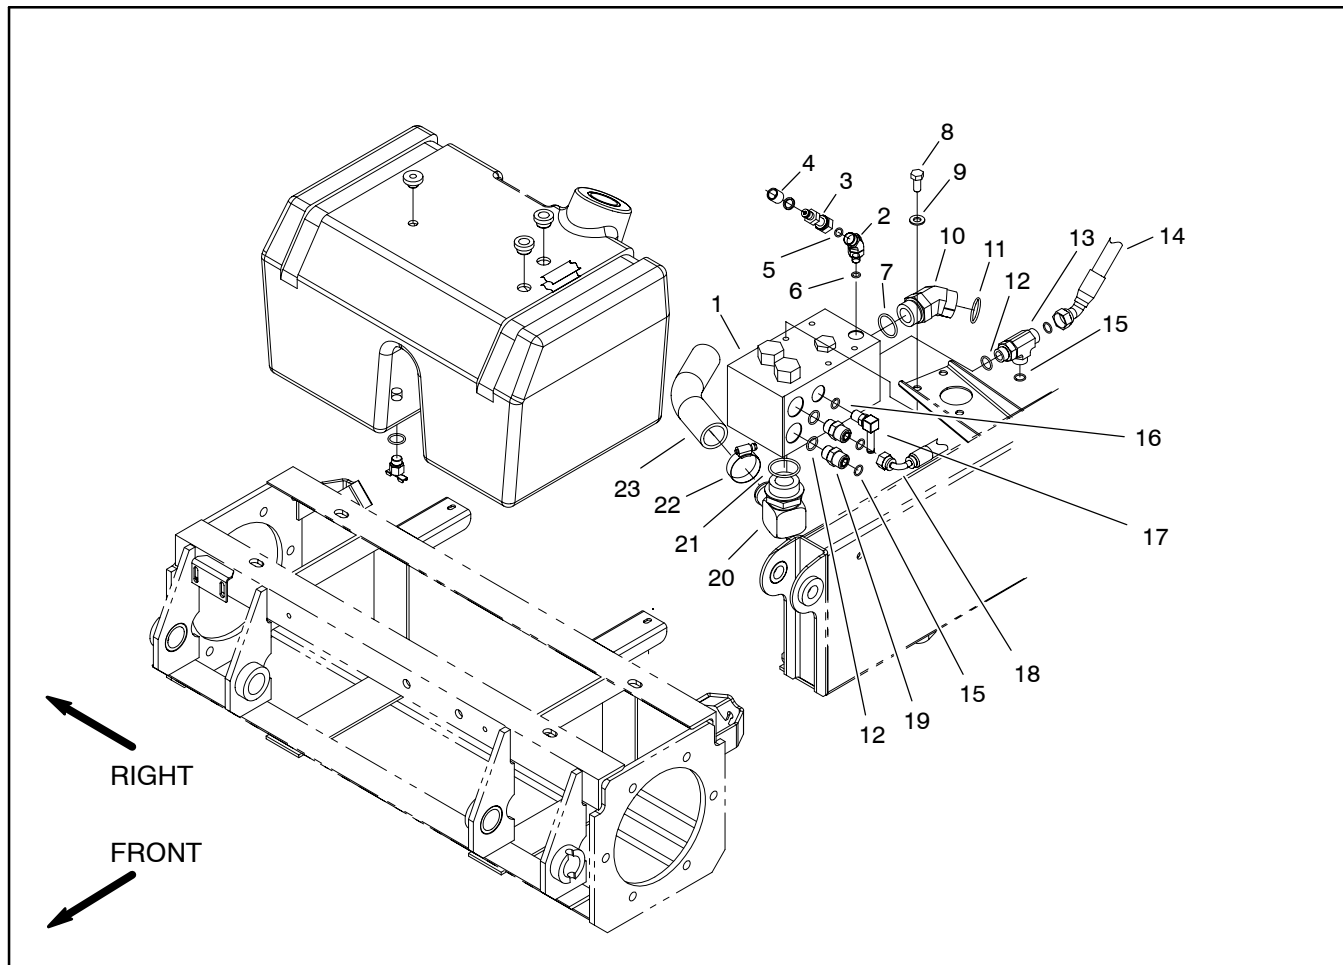

Figure 60
4. Remove hydraulic manifold from the frame using Figure 60 as guide.
1. Install hydraulic manifold to the frame using Figure 60 as guide.